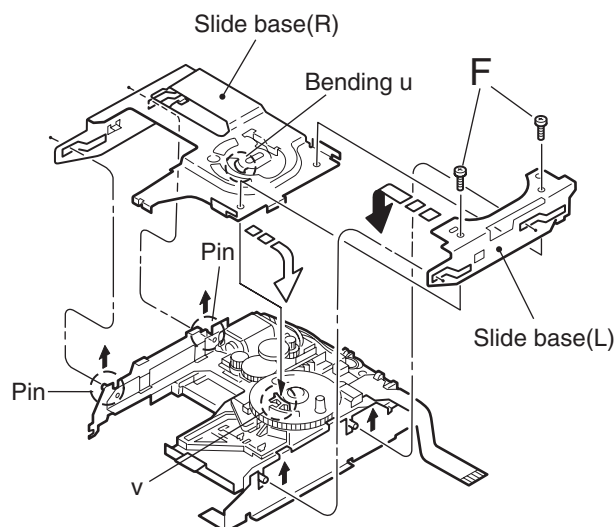

Fig.25
9. Reattach the slide base (R) while fitting the two slots of the slide base (R) to the bosses of the UD base (see Fig.25, 26).
10. Reattach the slide base (L) on the slide base (R) while fitting the two bosses of the UD base to the notches on the side of the slide base (L). Make sure that the slots of the slide base (L) are fitted to the two part **f** and fix the slide base (L) using the two screws **F** (see Fig.25, 27).